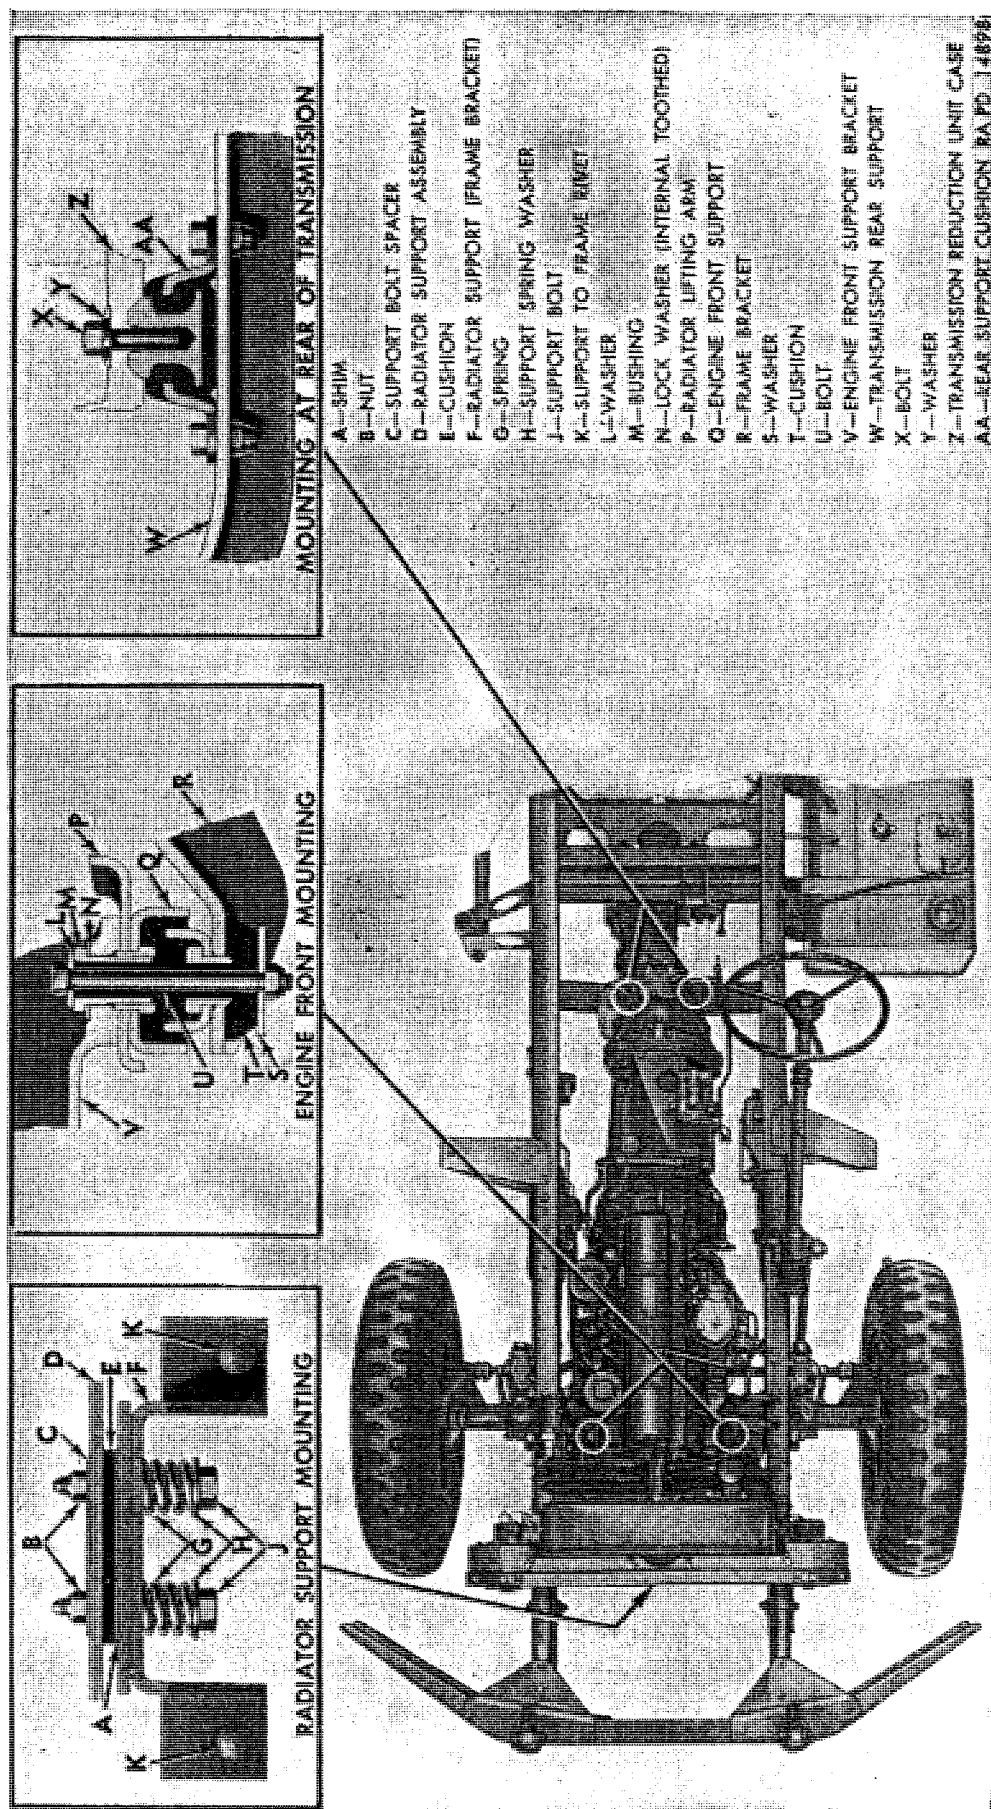
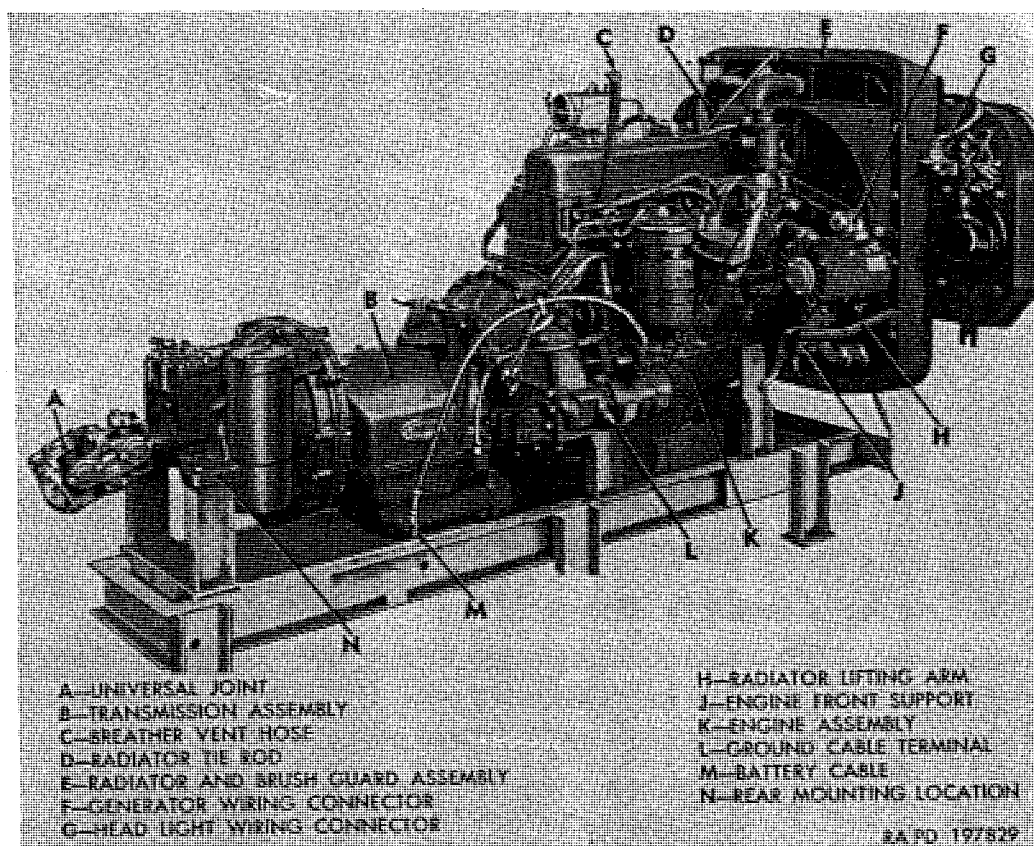
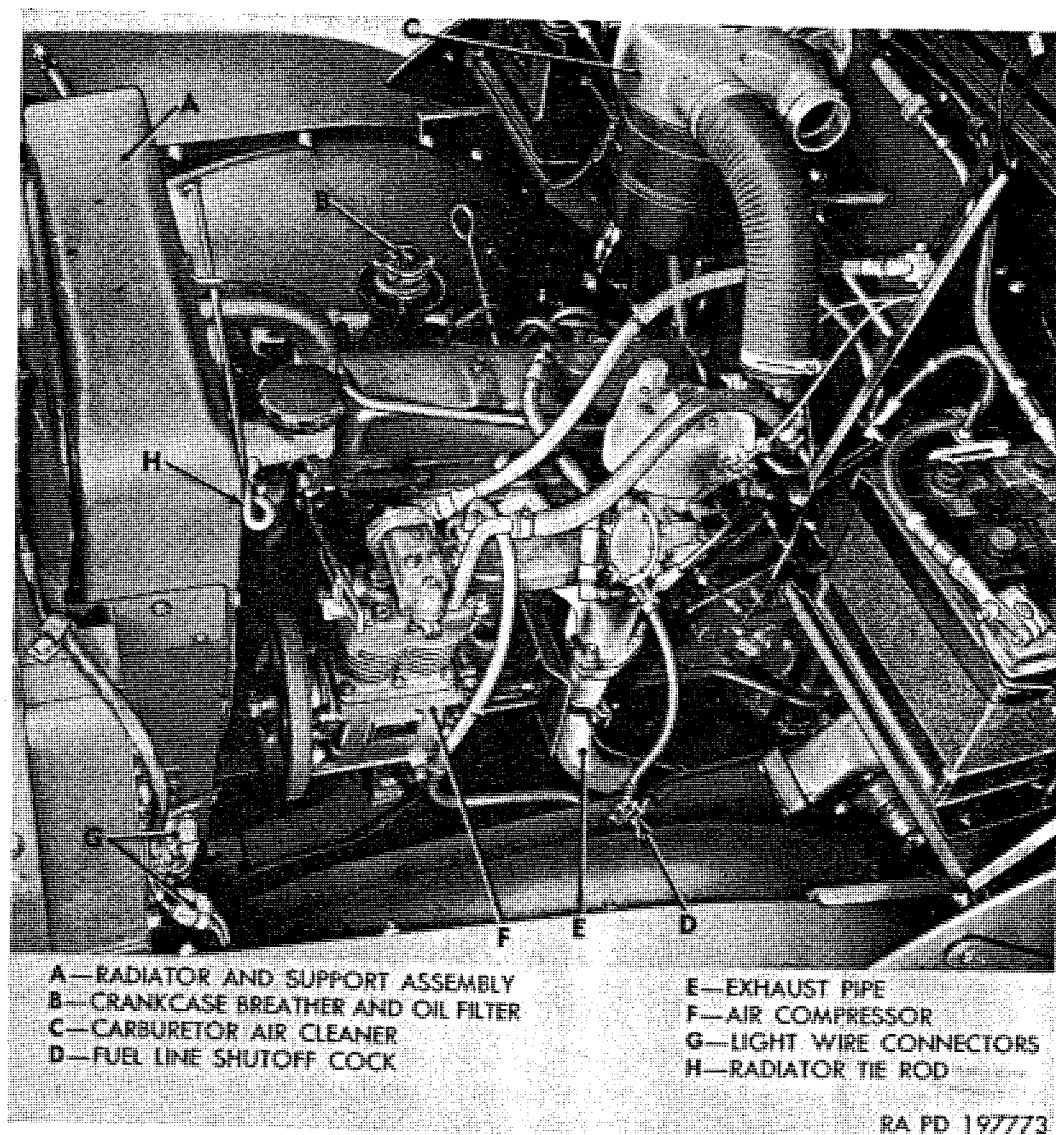

Figure 108. Power plant mountings.
Figure 111. Power plant assembly removed from vehicle.
Figure 112. Power plant installed—left side shown.
(fig. 108)
b. Operations at Front of Vehicle. Remove two fender-to-side-baffle bolts (F) which attach brush guard and radiator side baffles to each front fender. Loosen but do not remove two baffle-to-fender skirt bolts (H).
- (1) Attach radiator tie rod (D, fig. 111) at special stud at left side of cylinder head. Tie rod is clipped to radiator support for use only when removing power plant assembly.
- (2) Disconnect headlight wiring harness connector (M) at right side of radiator, and generator wiring harness connector (N) at generator, using spanner wrench.
- (3) On gasoline tank trucks M217 and water tank trucks M222, disconnect Mechanovac governor flexible drive shaft at governor speed unit attached to flywheel housing.
- (4) Remove four bolts connecting transmission-to-transfer universal joint flanges (V).
- (5) Remove clamp (J) which connects front and rear exhaust pipes.
- (6) Remove nuts from bolts at engine front supports (G). Remove large plain washer and cushion from lower end of each mounting bolt.
- (7) Remove two bolts from radiator support mounting (fig. 108). A spring and a washer are installed on each bolt.
a. General. The complete power plant assembly (fig. 111) must be removed from vehicle as an assembly (pars. 116 and 117), after which engine assembly may be removed as directed in this paragraph.
Note. Two-piece flywheel housing is part of engine assembly, and both halves must remain with engine on which they were originally installed. These halves include engine serial number as illustrated in figure 208. The key letters noted in parentheses are in figure 108, except where otherwise indicated.
- (1) Loosen radiator hose clamps and twist hoses to loosen from radiator and engine.
- (2) Remove nut holding radiator tie rod to cylinder head stud. Clip tie rod (D, fig. 111) in place at radiator support.
- (3) Lift radiator and brush guard assembly off radiator lifting arms and remove from engine.
d. Engine Front Support Removal (fig. 108). Remove bushing (M) and lockwasher at each front mounting bracket, and remove engine front supports (Q) and radiator lifting arms (P). Swing air compressor toward engine to provide sufficient clearance for removing bushing (M) and bolt (U).
a. General. A complete power plant composed of engine assembly, mountings, transmission, and radiator assembly must be installed as a unit (fig. 111).
- (1) Remove flywheel housing rear half from engine; then install housing rear half and torus members on transmission (par. 205c).
- (2) Install transmission on engine (par. 205d).
c. Engine Front Support Installation (fig. 108).
- (1) Locate engine left front support (Q) and radiator lifting arm (P) at engine front support bracket; then thread bushing (M) with new 1-inch internal-teeth lockwasher through support bracket and into support assembly.
- (1) With upper and lower radiator hose installed on engine, lift radiator support and brush guard assembly into position at front of engine. Engage lifting brackets on radiator support with lifting arms on engine; radiator hose must fit onto radiator inlet and outlet.
- (2) Position radiator tie rod (D, fig. 111) at cylinder head special stud and install stud nut.
- (3) Position radiator hose clamps, but do not tighten clamps until power plant is installed in vehicle.
- (2) Carefully lower power plant into position as it is moved rearward, taking care to avoid damaging lines, wiring, and cables. Fit front exhaust pipe into rear pipe, using new seal (par. 138c). Do not rest power plant solidly on mountings until shims and cushion (A and E, fig. 108) are in position on bracket. Boltholes in bracket, cushion, and shims must be aligned with holes in radiator support. Insert special $\frac{3}{8}$ -24 x $4\frac{1}{2}$ mounting bolt and large $1\frac{5}{32}$ -inch plain washer through engine right front mounting. Detach radiator tie rod (H, fig. 112) from cylinder head special stud and clip tie rod in place at radiator support.
- (1) Align holes in universal joint flanges (V) at rear of transmission and install four $\frac{1}{2}$ -20 x $1\frac{3}{8}$ bolts with $\frac{1}{2}$ -20 safety nuts. Tighten nuts to 48 to 64 pound-feet torque.
- (2) Assemble cushions, flat washers, and nuts on engine front mounting bolts (U, fig. 108) and tighten nuts to 20 to 27 pound-feet torque.
g. Final Checks and Inspections. Proceed with following checks and inspections (fig. 112) before attempting to start engine.
(1) Check fuel supply in tank. When certain there is fuel in tank, turn on ignition switch which will cause fuel pump to operate. With fuel pump operating, check fuel line and car-
buretor for leaks. Fuel line shutoff cock (D, fig. 112) must be open to permit fuel to reach carburetor.